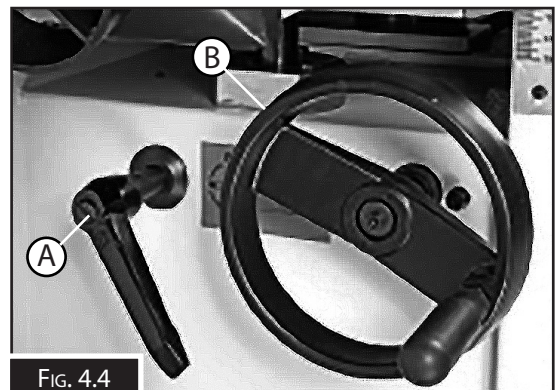

FIG. 4.4
6. Release the rise and fall clamping handle (A) and turn the operating wheel (B) clockwise to raise the thicknessing table to the required thickness then re-tighten the clamping handle. (Fig.4.4).